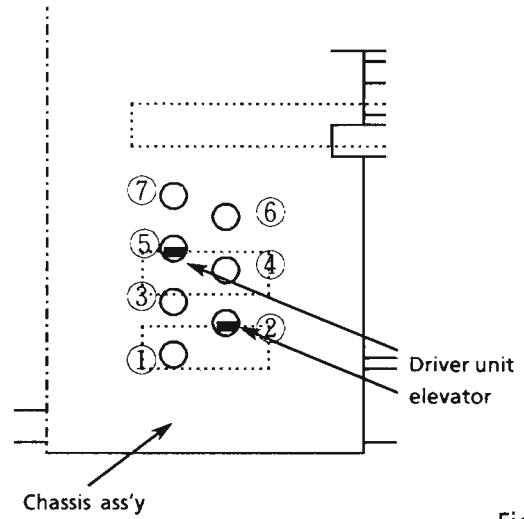
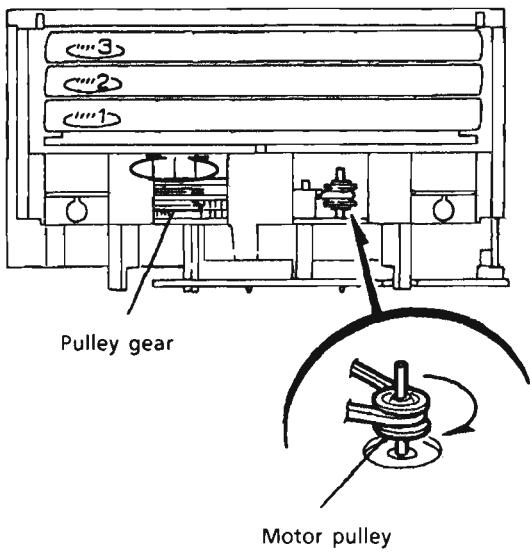

Fig. 33
Fig. 34
[NOTE] Set the elevator in correct position (Fig. 33) by rotating the pulley gear with finger if it is not positioned correctly (Fig. 34.).
12. Rotate the motor pulley clockwise with finger until the lifter unit's stopper is lowered from ⑧ hole located on the CD tray ass'y. (See Fig. 34.)